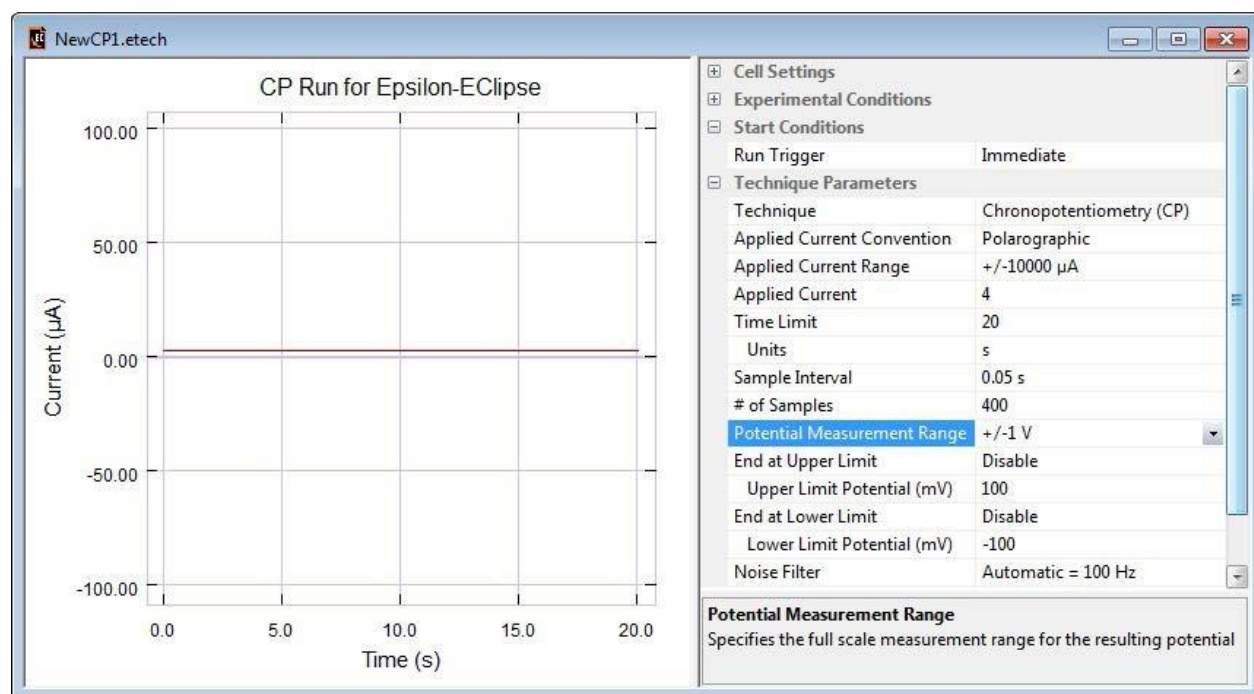
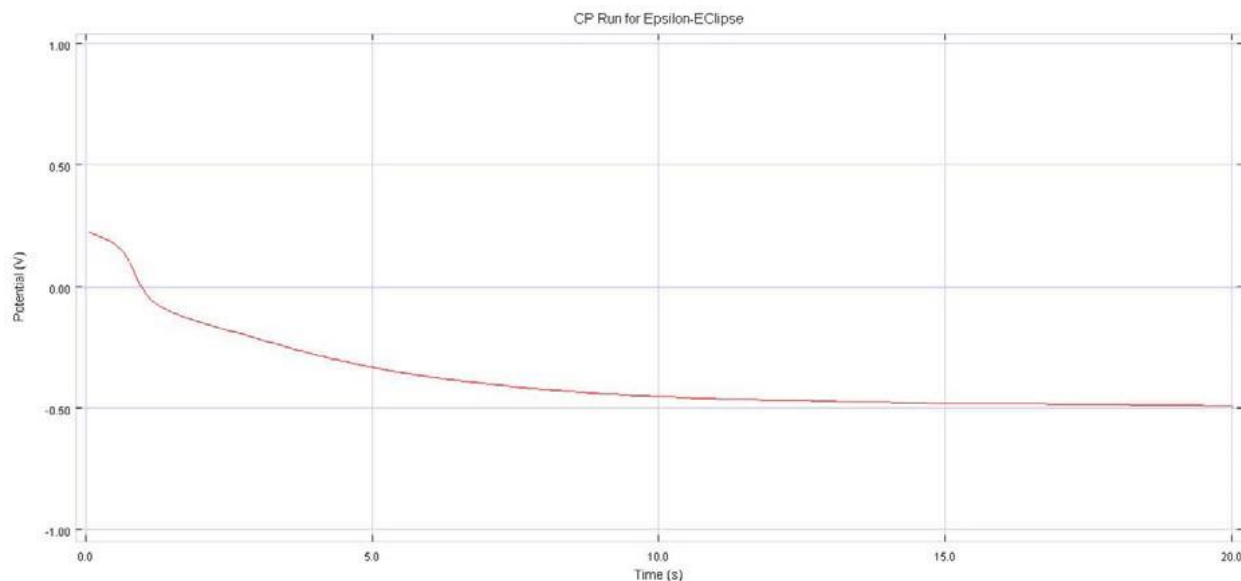

Figure 13 - Parameters for Chronopotentiometry
Figure 14 - Chronopotentiometry graph
14. Click **New**, and select **Chronopotentiometry**. A fourth experiment window will be opened. Enter the parameters shown in **Figure 13**, then run the experiment (note the sign convention for the current - cathodic (reduction) currents are positive for **polarographic**). Typical data for a **Chronopotentiometry** experiment is shown in **Figure 14**.